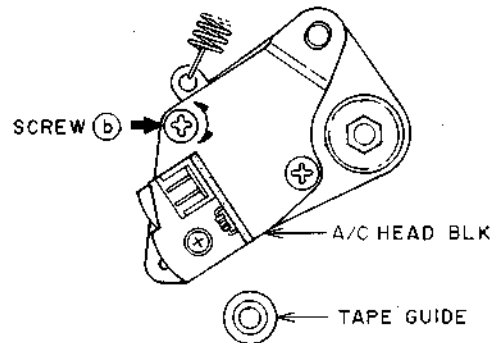

Fig. 6-7-3
- 4) Turn the screw (b) shown in Fig. 6-7-3 to obtain the maximum audio signal output.